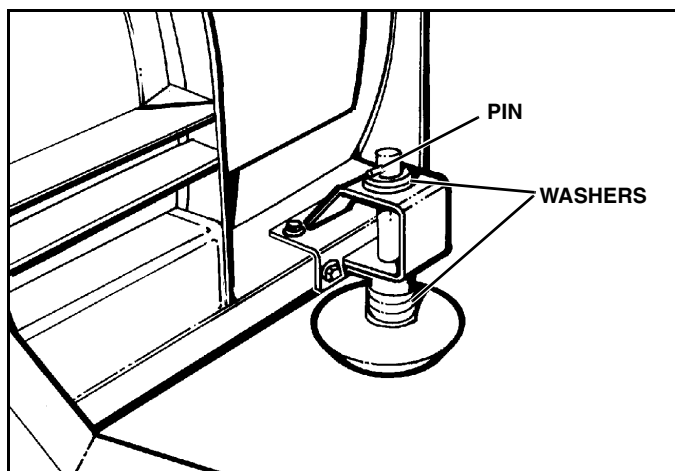

Figure 2-4
14. Adjust each disk shoe assembly by removing disk shoe mounting pin and adding or subtracting washers on the top or bottom of the disk shoe mounting bracket as required according to measurements taken in step #11 (See Figure 2-4).